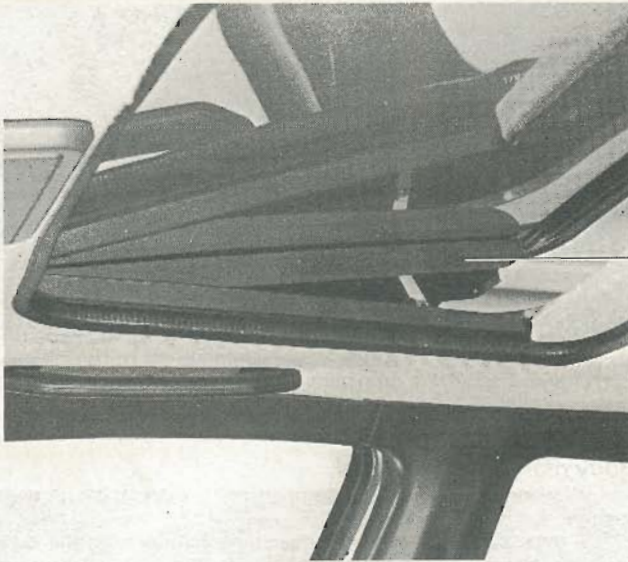

Fig. 10.3 Remove the sunroof side trim mouldings (Sec 29)
- 2 Remove the sunroof frame side trim mouldings by sliding them towards the rear of the frame - see Fig. 10.3.